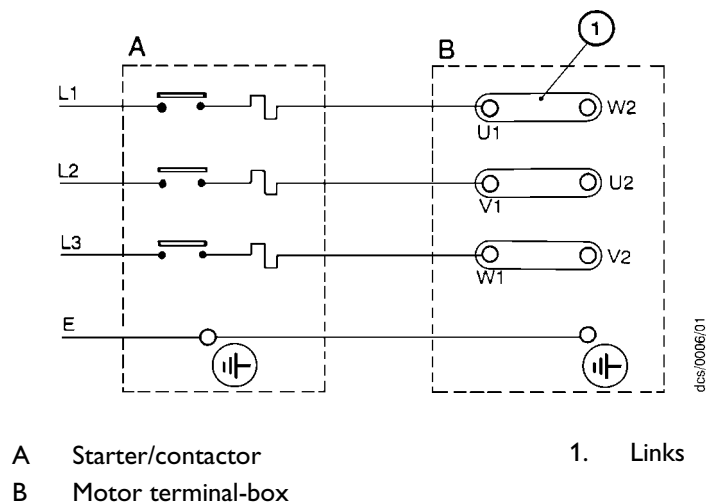

Figure 5 - Three-phase electrical connections: 200-230 V
3. Ensure that the motor is correctly configured for your electrical supply. If necessary, reconfigure the links (Figures 5 and 6, item 1) to suit your electrical supply:
- For 200-230 V electrical supplies, the links must be configured as shown in Figure 5.
2. Use insulated crimped connectors to connect the wires in the cable to the terminals U1, V1 and W1 in the terminal-box as shown in Figures 5 and 6.
- Remove the terminal-box cover and swap wires L1 and L3: see Figures 5 and 6.
Before you connect the pump to your vacuum system, fit the centring-ring and inlet-filter (supplied with the pump) to the pump inlet-port (see Figure 5).